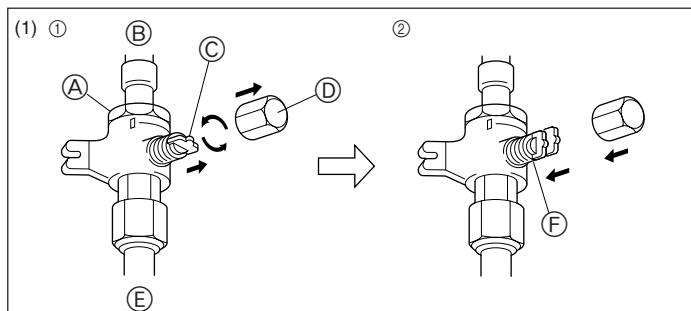
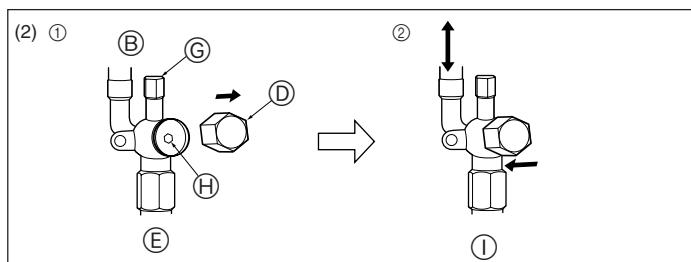

Fig. 4-5
Fig. 4-6
(1) Gas side of RP2.5-6 (Fig. 4-5)
① Remove the cap, pull the handle toward you and rotate 1/4 turn in a counterclockwise direction to open.
② Make sure that the stop valve is open completely, push in the handle and rotate the cap back to its original position.
(2) Liquid side of RP2.5-6 and Gas/Liquid side of RP1.6, 2 (Fig. 4-6)
① Remove the cap and turn the valve rod counterclockwise as far as it will go with the use of a 4 mm hexagonal wrench. Stop turning when it hits the stopper. (ø6.35: Approximately 4.5 revolutions) (ø9.52: Approximately 10 revolutions)